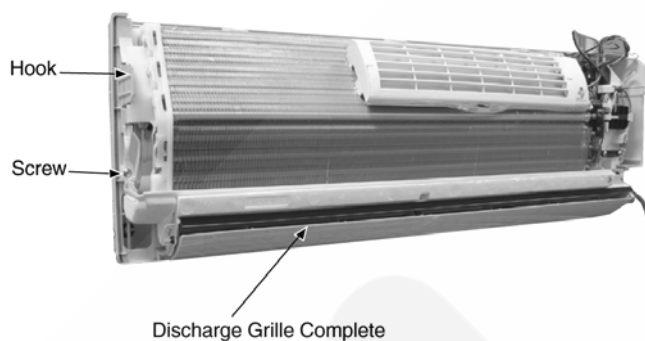

Fig. 6
- Remove the screw on the left of the unit. (Fig. 6)
- Pull the hook to the left and lift up the evaporator. (Fig. 6)
- Pull down the Discharge Grille Complete. (Fig. 6)